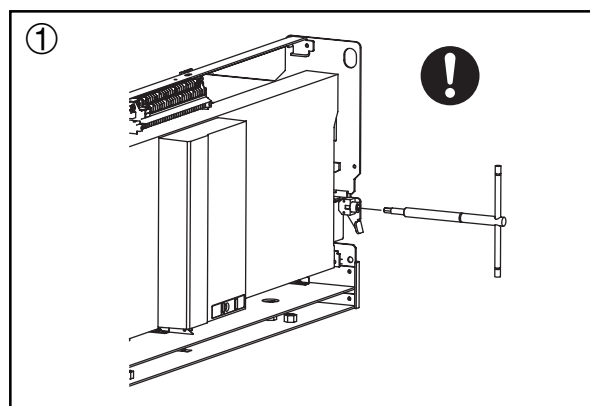

Fig. 13-1
- Remove two fixing bolts (M12) for the types AE4000 ~ 6300-SW. (See Fig. 13-1)